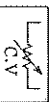

Figure 3-7
Note 2: o By connecting a zener diode Dz ($V_z = 11 \text{ V}$, 250 mW) between terminals (4) and (5) as shown in Figure 3-7, the output voltage can be limited at 110% of the rated voltage even when the external resistance circuit is made open.